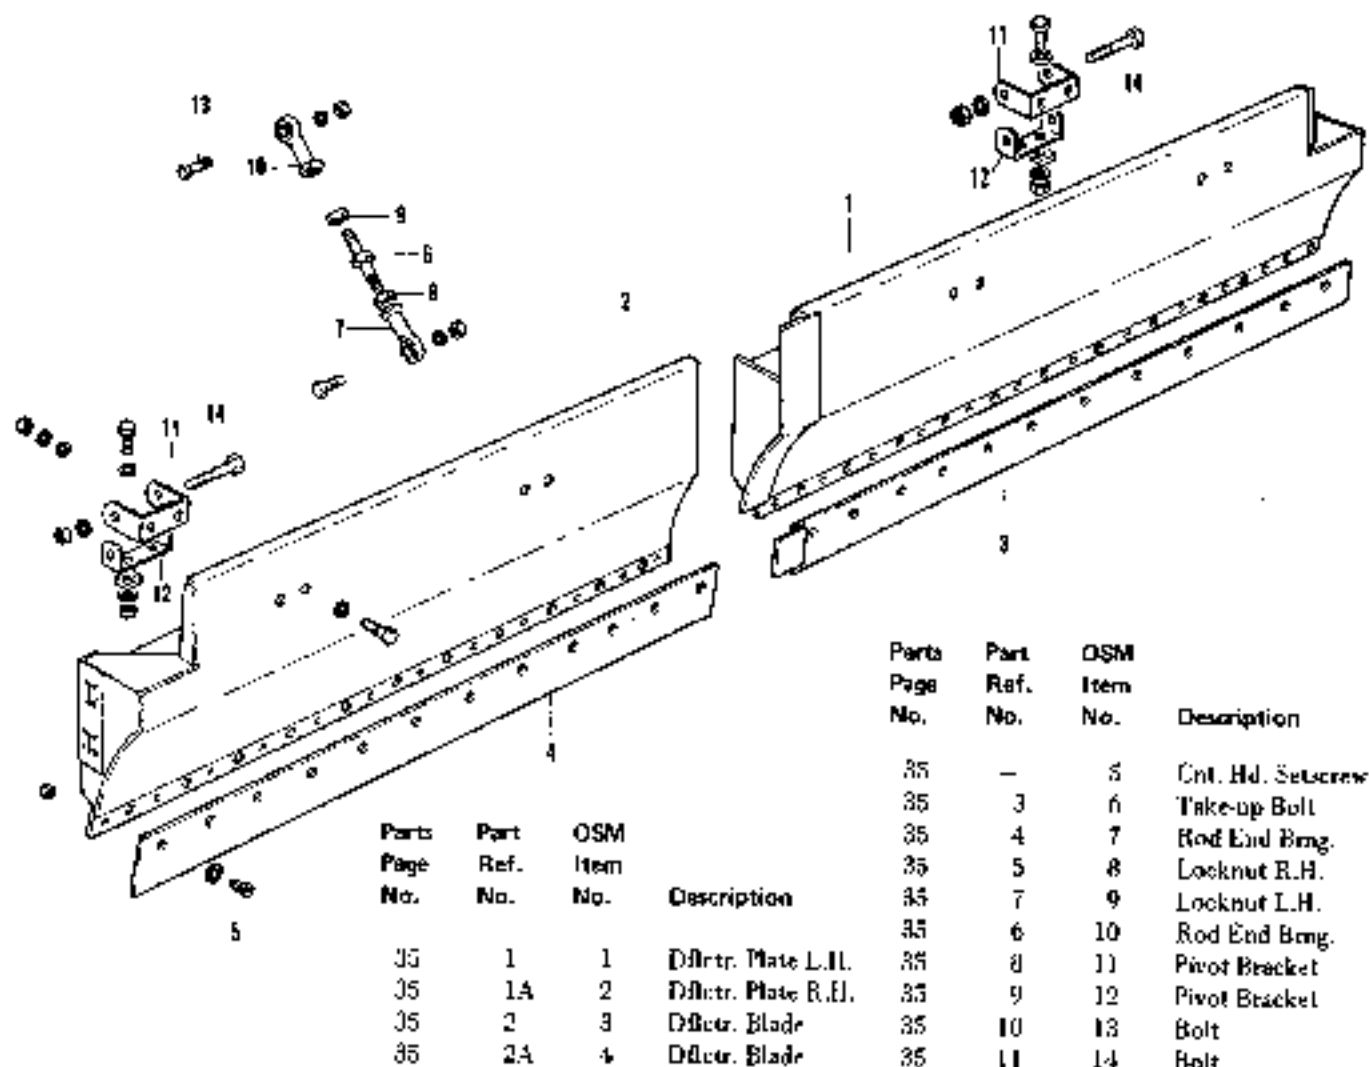

FIGURE J-20 — Deflector Plate
- Remove deflector plate assemblies (1 and 2, Figure J-20), by removing bolts (13) and (14).
- Disassemble deflector plates by removing deflector blades (3 and 4) and bracket (12) from plates (1 and 2).
- Remove tamper bars (3), yoke (3) and bushings (4), Figure J-20.
- Reassemble deflector plate assemblies as shown by Figure J-20.
- Install deflector plate assemblies in position as shown by Figure J-20 and secure with bolts (13 and 14).